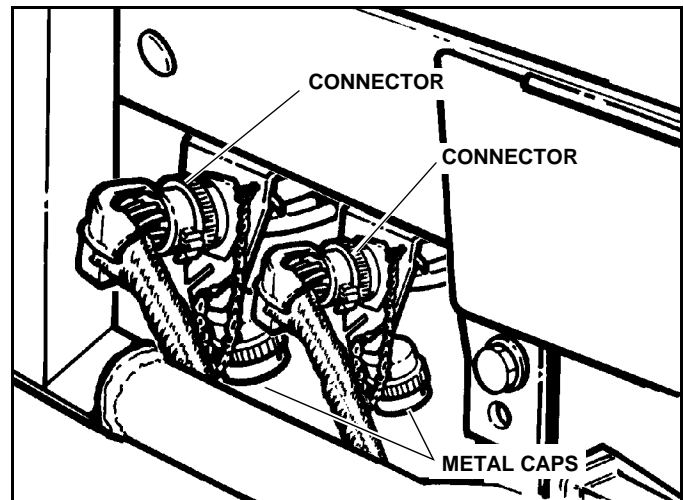

Figure 1-1
3. Remove the Metal Caps from the vehicle end of the Wiring Harnesses by rotating them counterclockwise and store them as shown in Figure 1-1, if Metal Caps are chained to the Harness Plug Bracket. If Metal Caps are not chained to the brackets store the Metal Caps in the vehicle for future use.